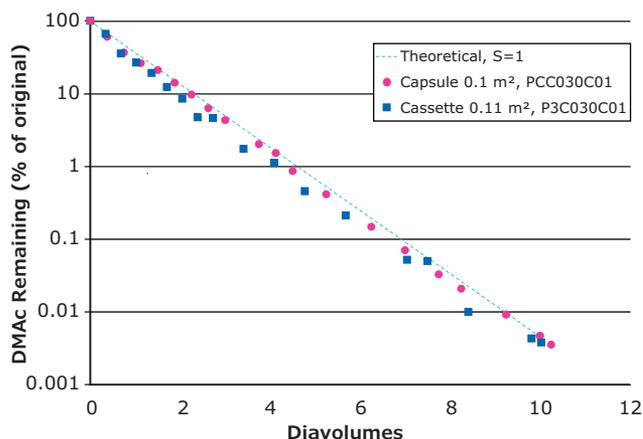
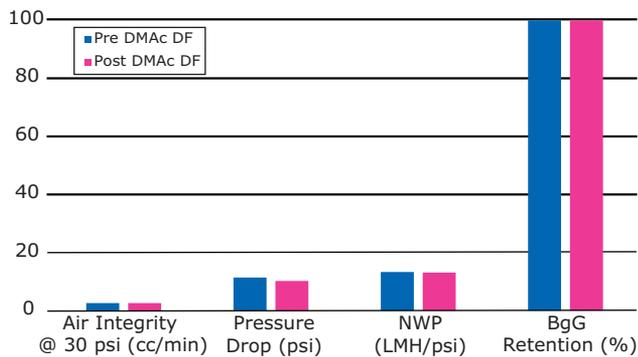

Figure 4. Diafiltration of 20% DMAc from aqueous solution.
Figure 6. Compatibility of Pellicon® Capsule with DMAC.
Figures 4 and 5 show the clearance of 20% DMAc and 20% DMSO, respectively, by diafiltration using capsule and cassette formats. Both filters performed with efficient solvent clearance and track a theoretical process in which no retention of the solvent by the membrane is assumed, calculated using a sieving coefficient (S) of 1. The decrease in DMSO removal rate after ~8 diavolumes may be due to the presence of dead legs in the system and charge interactions. Comparison of pre- and post-diafiltration parameters, including air diffusion, pressure drop, membrane permeability, and protein retention, indicates stability of the capsule to DMSO and DMAc under the tested conditions (Figures 6 and 7).